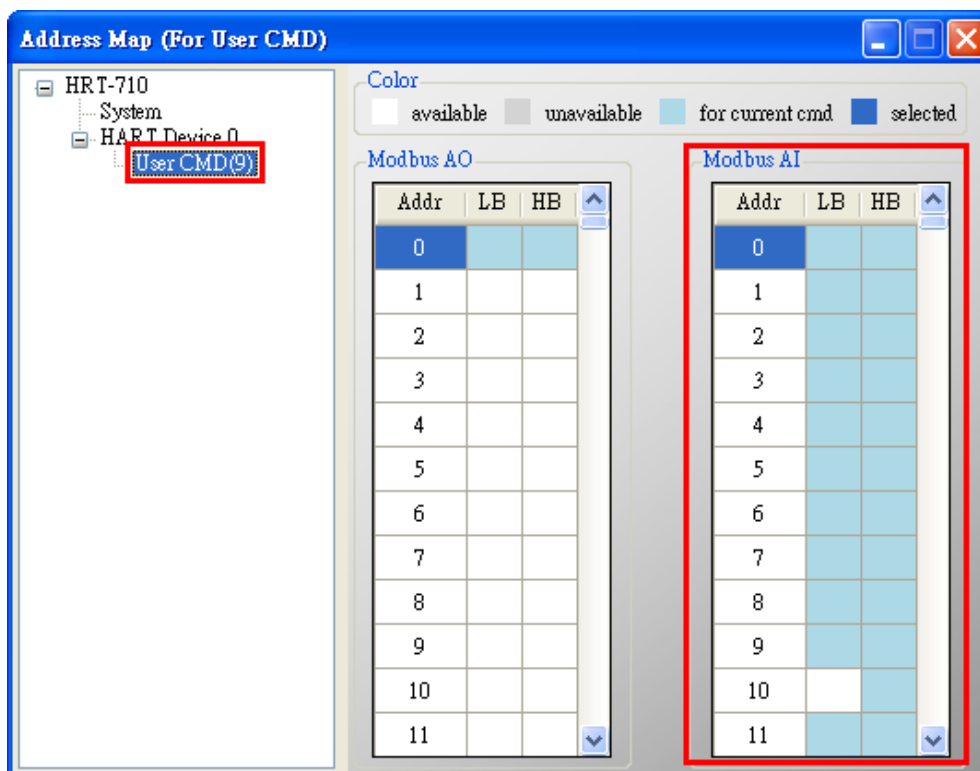

Figure 30-9
<1> In the "Address Map" screen, click the "UserCMD(9)" item. In the "Modbus AI" area, the blue grid will be the address of the received data of UserCMD(9) like Figure 30-9. In the example, it needs 23 bytes (response code (2B) + response data (21B)) for HART command 9. Therefore, it will occupy 12 modbus address from 0 to 11.